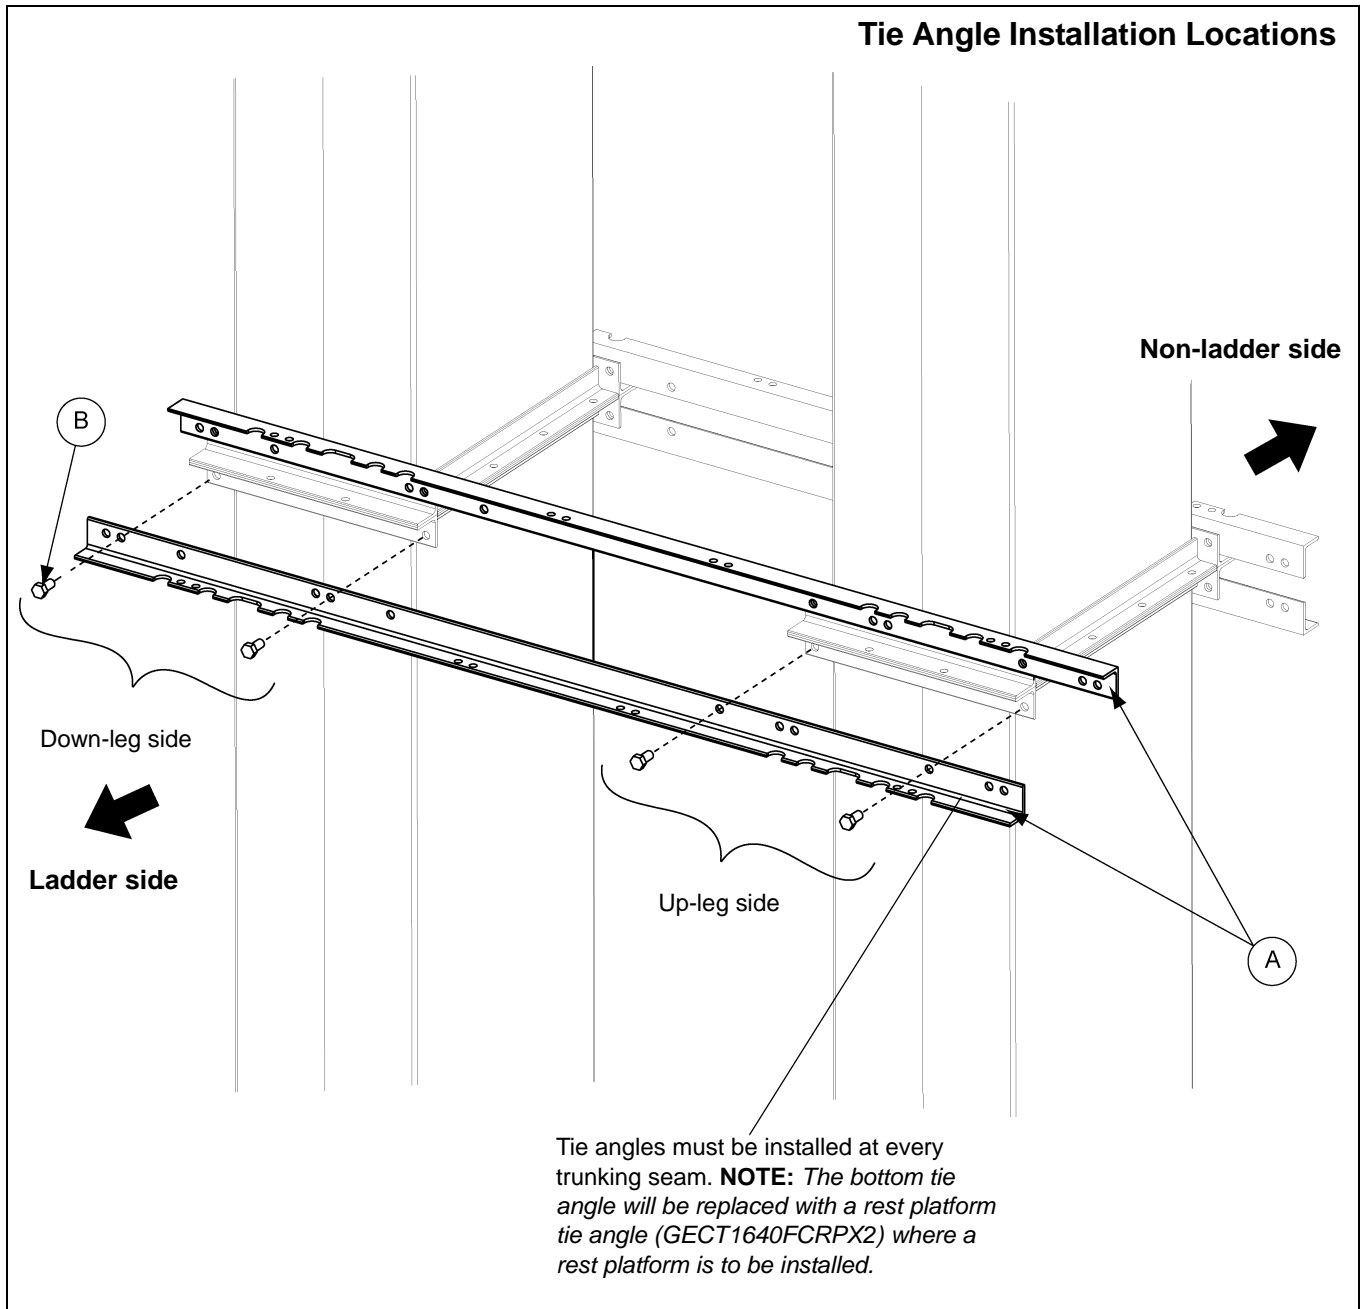

Figure 6G Tie Angle Installation Location
1. Tie angles must be mounted to each trunking seam on both the ladder and non-ladder side of the trunking. Use 1/2" x 1" bolts (S-7935) (B). *See Figures 6G-6I on Pages 24 and 25 for the correct location of bolts for each elevator size.*